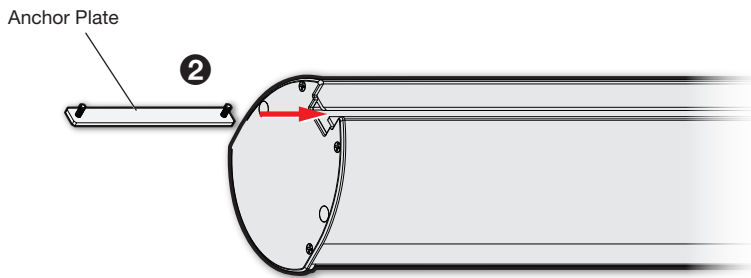

Figure 12. Slide Anchor Plate into T-slot
2. Brace the top of the speaker with your hand as you remove the top-end foam piece (see figure 12, ①).